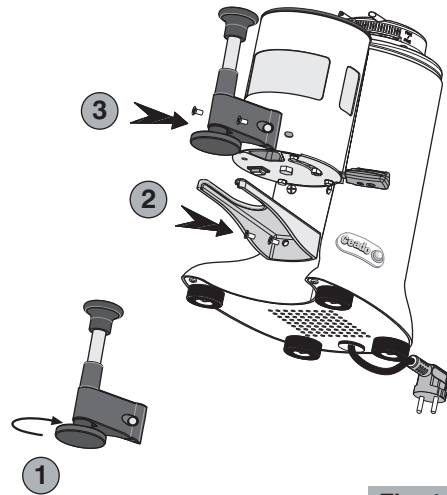

Fig. 14
- 2** Choose the suitable press diameter (53, 54,5 or 57,5 mm) for the filter-holder of your coffee machine and fix it to the rod of the telescopic press (1, Fig. 14).
- 3** Position the long support fork supplied with the telescopic press and fasten it using the same retaining screws of the short fork removed previously (2, Fig. 14).
- 4** Position the telescopic press and fasten it with the screws provided (3, Fig. 14).